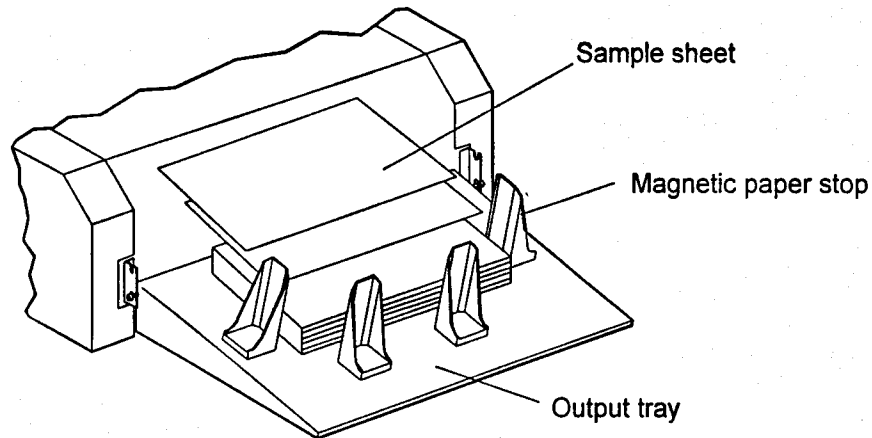

FIG. 1
- 2.1 Make a sample sheet of finished size by tearing a piece off the continuous stationery and removing the tractor holes. Referring to Fig. 1 above, move the magnetic stops on the output tray so that they will comfortably accommodate the sample sheet. This will initially retain the paper stack when the machine is operating. Final adjustments can be carried out while the machine is running.